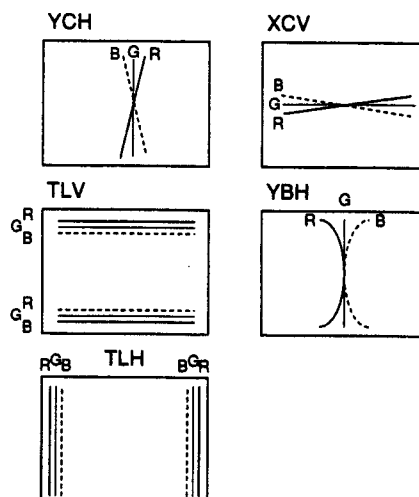

Fig. 3-28 Convergence compensation VR,coil,and compensator
3. When the nonconvergence of the TILT component is included in the horizontal convergence, make adjustment with the TLH compensator. (Fig.3-28)
3. When the nonconvergence of the TILT component is included in the horizontal convergence, insert the TLH compensator into the deflection yoke for adjustment. (Fig.3-28)
3. When the nonconvergence of the TILT component is included in the vertical convergence, insert the TLV compensator into the deflection yoke for adjustment. (Fig.3-28)